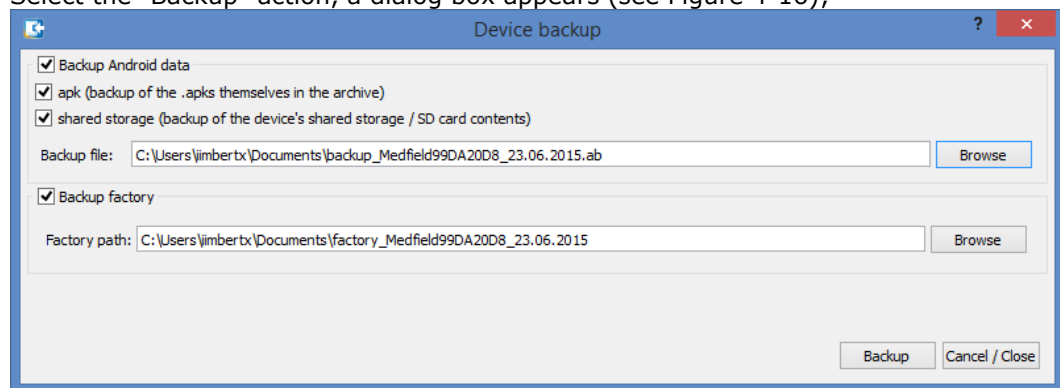

Figure 4-16: Device backup window
2. Select the "Backup" action, a dialog box appears (see Figure 4-16);